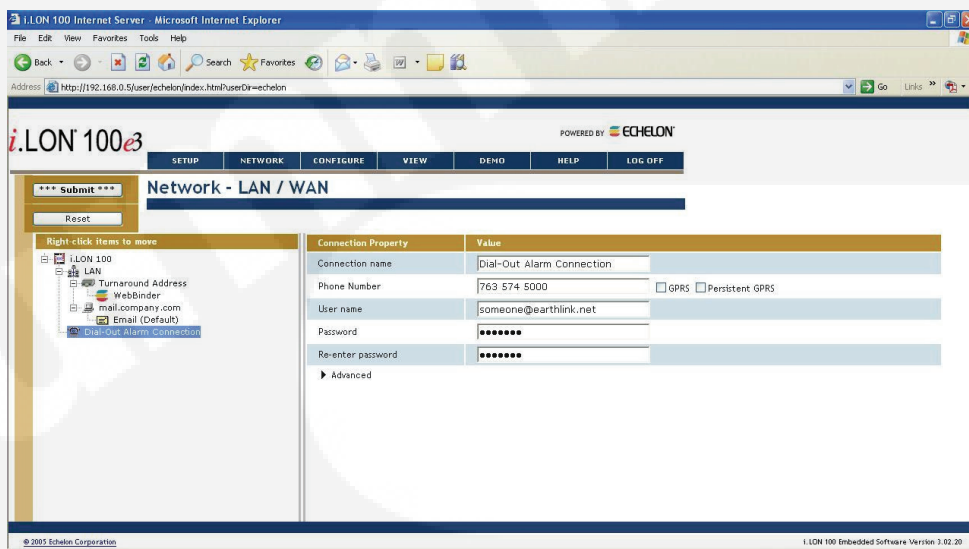

FIGURE 6-11. NEW CONNECTION
4. Enter the necessary phone number, user id, and password for connection to your ISP (see Figure 6-11).